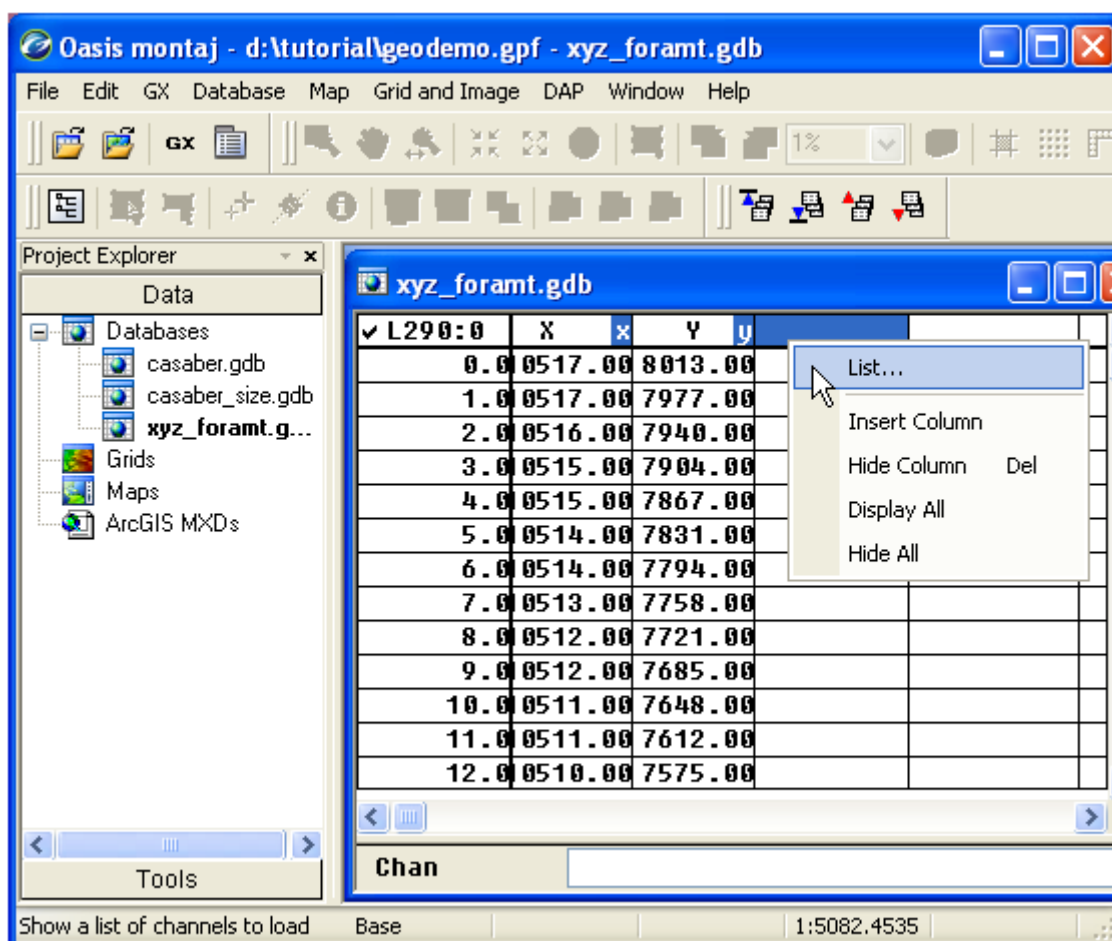

Figure 1.67. – Spreadsheet columns window
1. Move to the top of the first empty channel header, fig. 1.67, and using the mouse, right-click and from the popup menu, select *List*.